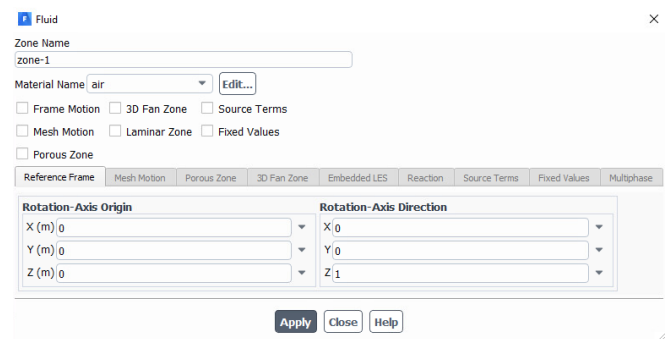

Figure 8. Setting zone material.
2.8.2. In the **Task Page** pane, double-click on the **zone-1**. In the **Material Name** box, make sure “air” is selected in Material Name, as shown in Figure 8, then close.